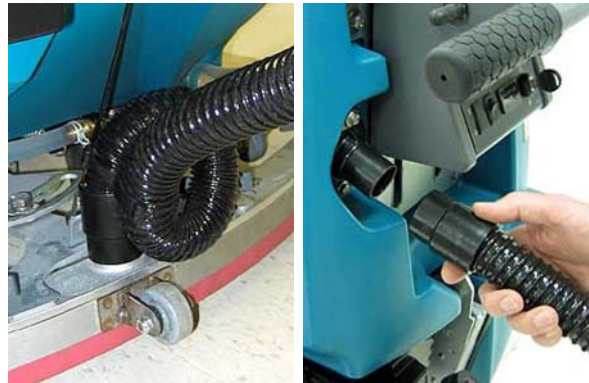

FIG. 4
3. Remove the vacuum hose from the squeegee assembly. Note loop and clip on hose (Figure 4).